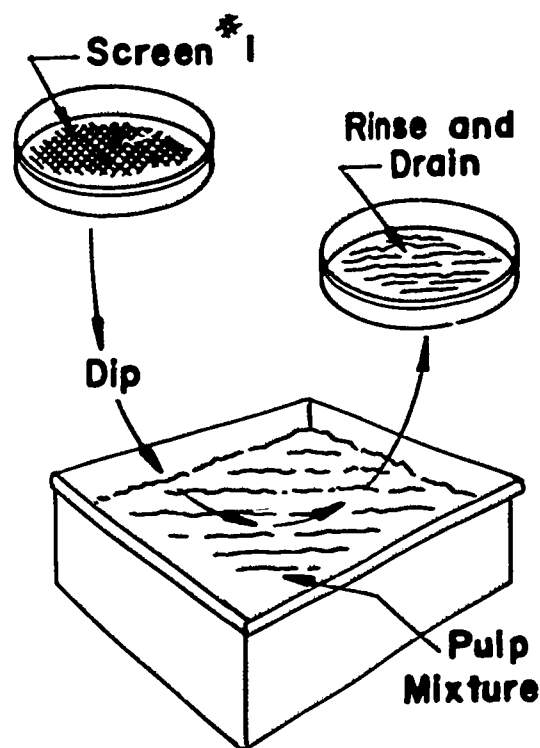

Fig. 50-1. Screening Pulp Mixture
7. Place the screen, at an angle, into the pulp mixture. See Fig. 50-1.